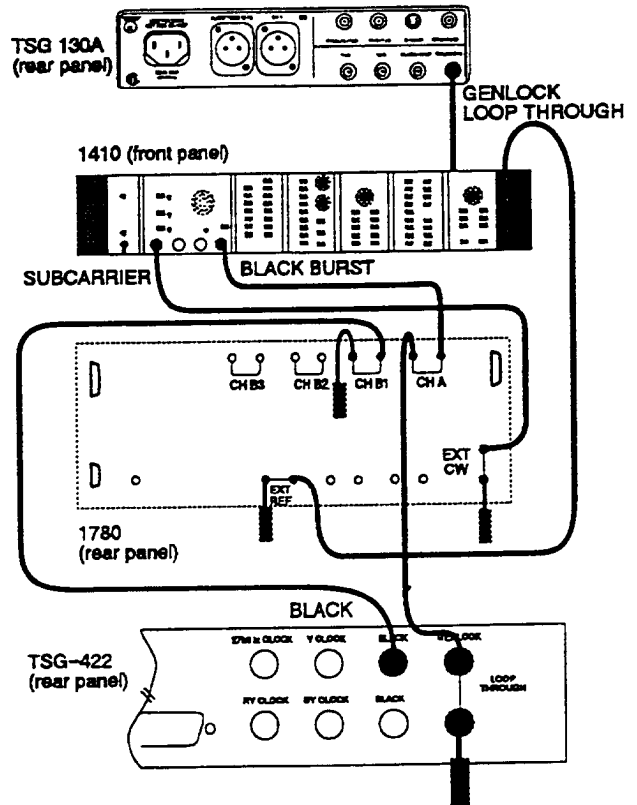

Fig. 5-4a. Setup to check the Color Framing. (NTSC)
- a. Connect the equipment as shown in Fig. 5-4a.